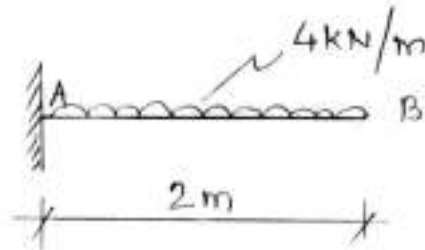

Fig. No. 1.
- g) Calculate reaction and reactive moment for a cantilever beam loaded as shown in Fig. No. 1.